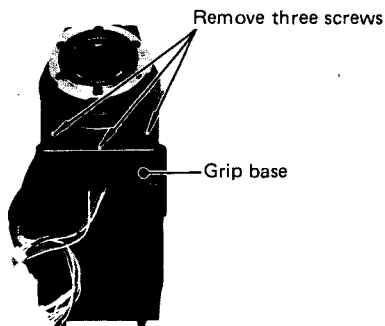

Fig. 4-3
- o Remove three screws which hold the grip base and remove the grip base. (Fig. 4-3)